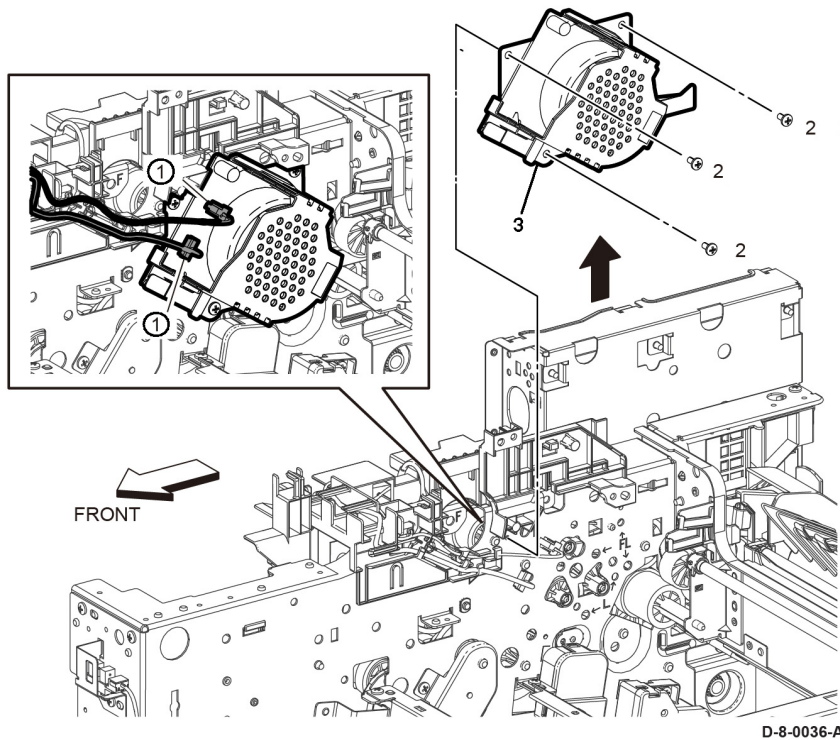

Figure 1 Drive motor assembly removal
20. Remove the drive motor assembly, Figure 1:
- Disconnect two connectors (1) (P/J551 and P/J552).
- Remove three screws (2), then remove the drive motor assembly (3).